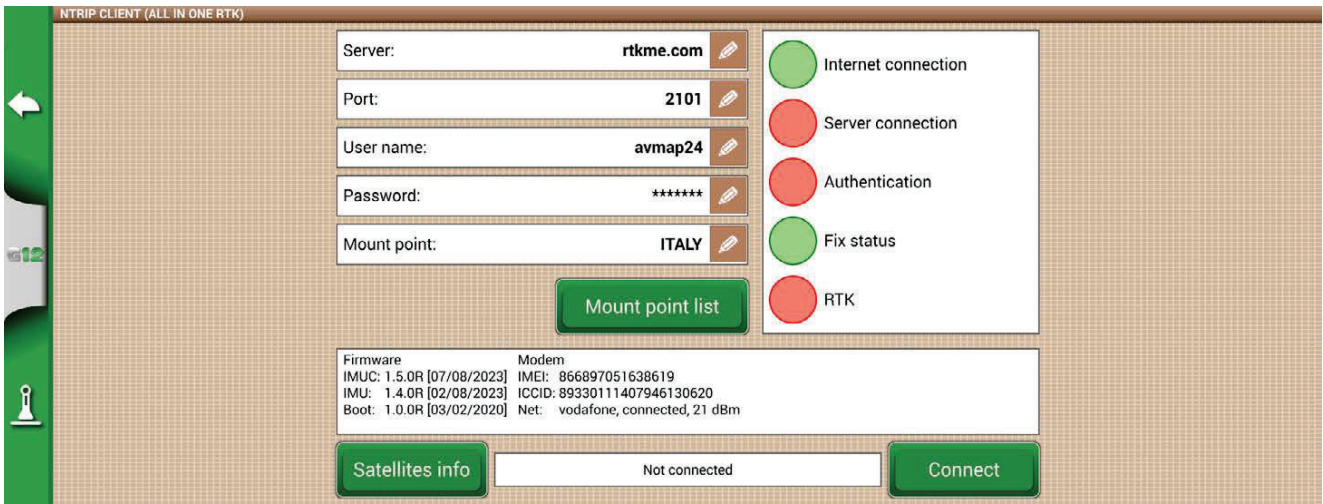

Figure 6.1.2.b - NTRIP Client configuration
- Wait about 3 minutes, then all icons shall be green (Figure 6.1.2.c) and all NTRIP services shall be active.